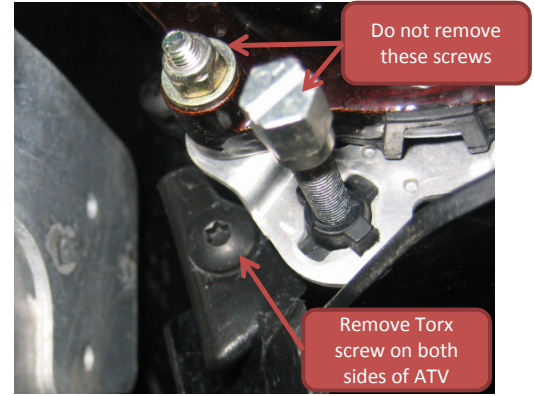

Figure 10
- The two remaining bolts located behind the head lights are difficult to find. They are located below and to the right of the head light case when viewing the lights from the viewpoint shown in Figure 9. Refer to Figure 10 for a close up view of the torx screw.
- Figure 10 shows the right side head light (opposite of the head light shown in Figure 9). There are two visible screws with the torx screw tucked behind them. Remove the torx screw.